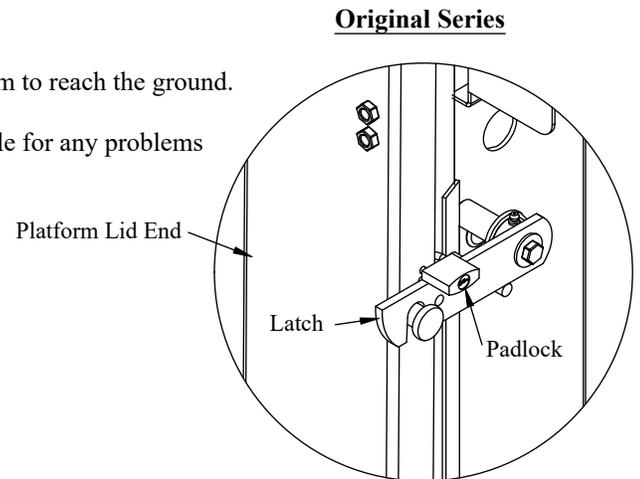

Figure 23: Padlock location.
9. **Lock** the padlock through the hole in the platform (Figure 23).